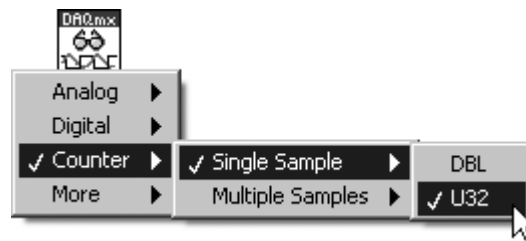

Figure 11.73
5. After placing **DAQmx Read** onto the block diagram, select the **Counter>>Single Sample>>U32** instance from the Polymorphic VI Selector, as shown in Figure 11.73.